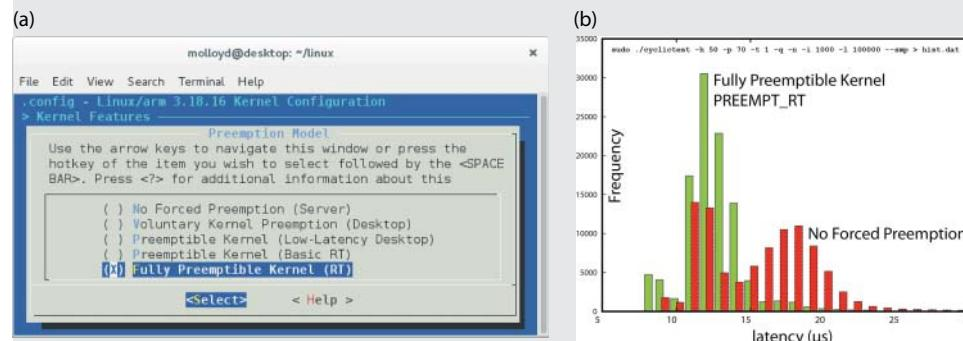

Figure 7-15: (a) The `PREEMPT_RT` menuconfig option (b) The results histogram of the `cyclictest` under load
- In the Kernel Features menu, you can see that the number of CPUs is set at 4 for the RPi2/3. You can alter the Preemption Model in the same menu (see Figure 7-15(a)).
In Figure 7-15(a), the RT patch has been applied, which results in a new option for a fully preemptible kernel in the `menuconfig` tool.
The patched kernel can be deployed using the steps that follow in this section. On `reboot`, `uname -a` should display a message that includes `RT`. Figure 7-15(b) illustrates the `cyclictest` results histogram of the fully preemptible kernel in comparison to a kernel with no forced preemption. These kernels were tested under load by using the